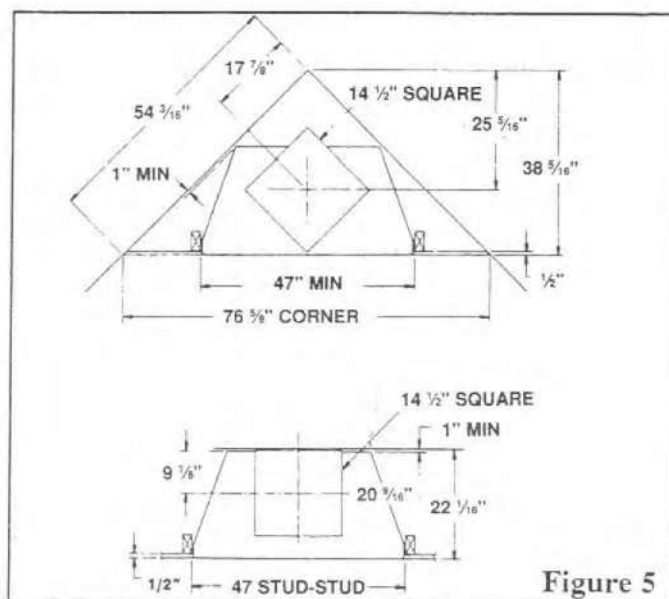

Figure 5
Corners should be considered where space is limited or at a premium. A corner-installed fireplace can make use of space that may not normally be used (see Figure 5).
**STEP 3:** On the ceiling directly above the center of the double-wall pipe, lay out a 14-1/2 inch square hole (use plumb bob) and cut out for chimney exit (see Figure 5, Page 3 for dimensions).